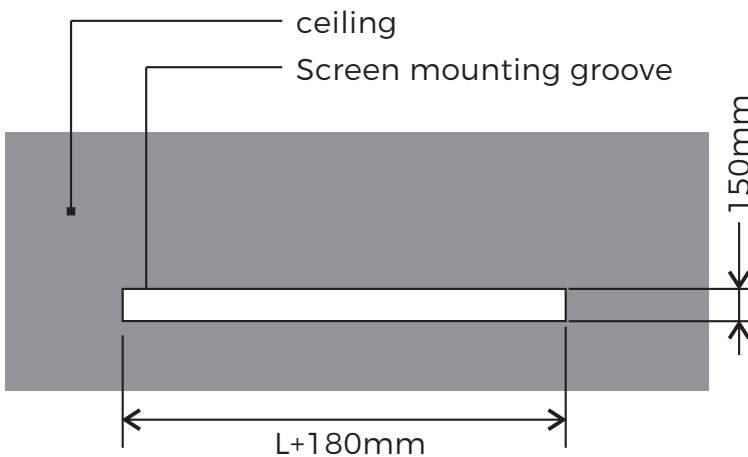

Fig4
- (1) Measure the screen length (A)
- (2) Make an opening in your ceiling of the following size: (A + 170mm) as Figure 4.